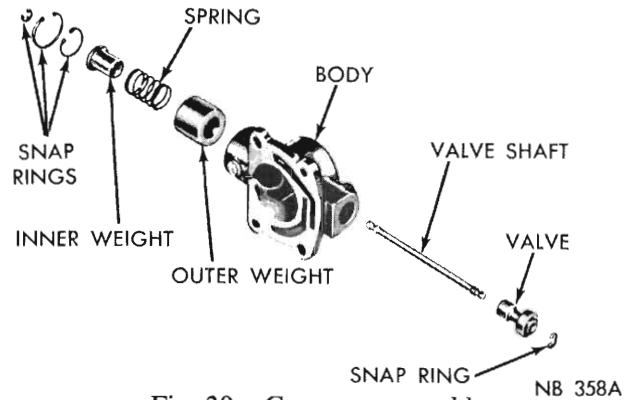
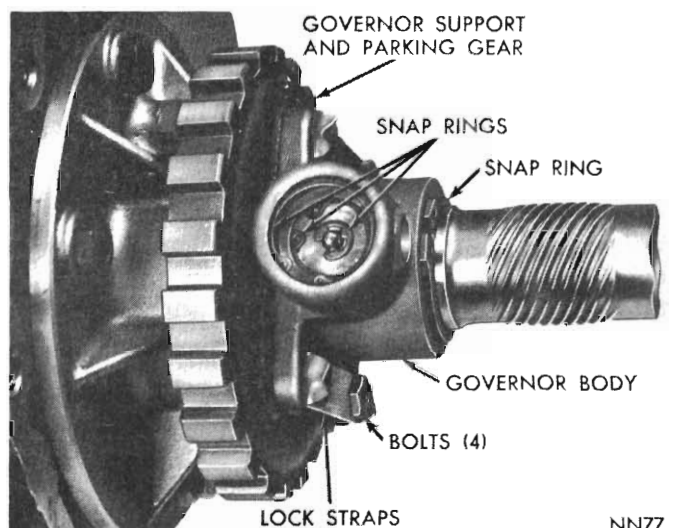

Fig. 39 - Governor assembly
Fig. 40 - Governor shaft and weight snap ring
(1) Remove extension housing and output shaft bearing.
(2) Carefully pry snap ring from weight end of governor valve shaft (Fig. 40). Slide valve and shaft assembly out of governor body.
(3) Remove large snap ring from weight end of governor body, lift out governor weight assembly.
(4) Remove snap ring from inside governor weight, remove inner weight and spring from the outer weight. Fig. 39 shows a disassembled view of the governor assembly.
(5) Remove snap ring from behind governor body, then slide governor and support assembly off the output shaft. If necessary, remove the four bolts and separate governor body from the support.
(1) Assemble governor body to the support (if disassembled) and tighten bolts finger tight. Make sure oil passage of governor body aligns with passage in the support.
(2) Position support and governor assembly on the output shaft. Align assembly so valve shaft hole in governor body aligns with hole in the output shaft, then slide assembly into place. Install snap ring behind governor body (Fig. 40). Tighten the body to support bolts to 100 lbs. in. Bend ends of lock straps over bolt heads.
(3) Assemble governor weights and spring, and secure with snap ring inside of large governor weight. Place weight assembly in governor body and install snap ring.
(4) Place governor valve on the valve shaft, insert assembly into the body and through governor weights. Install valve shaft retaining snap ring. Inspect valve and weight assembly for free movement after installation.
(5) Install output shaft bearing and extension housing.